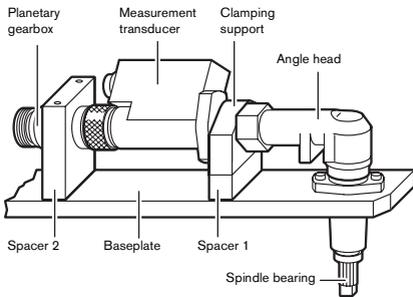
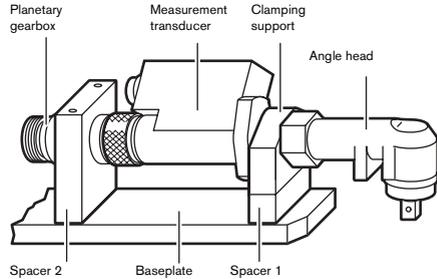

Abb. 12: Angle head with straight output drive
Abb. 13: Angle head without straight output drive
1. Plug the measurement transducer or the adapter onto the clamping support of the angle head, see fig. 12 on page 146 and fig. 13 on page 146.